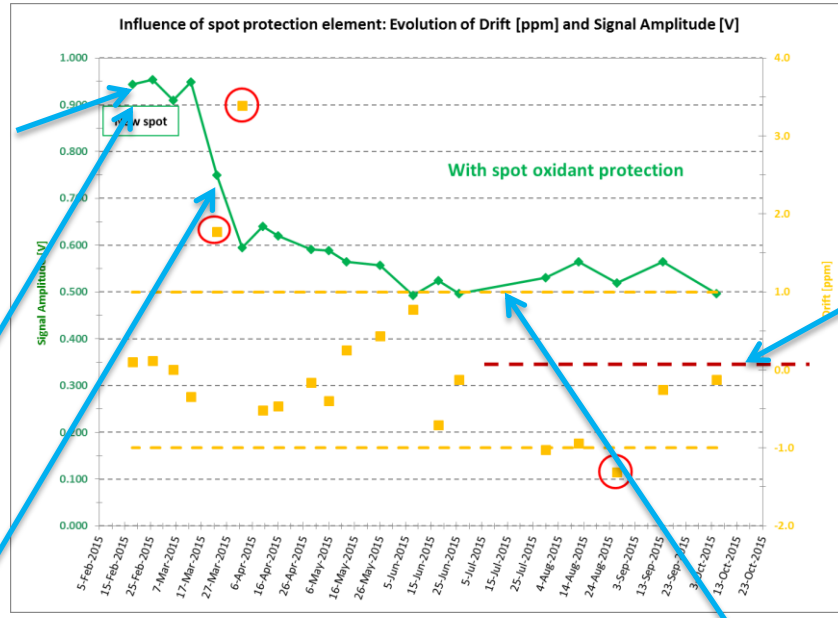

Figure 6: Key spot lifecycle phases with SW 3.08 dry relay function
When the last status of spot is reached, spot has been drastically attacked. In case of high level spot, signal amplitude in air—initially between 0.8 and 0.9V—can be decreased down to less than 0.200V. In such conditions, calibration frequency is about once a week, and the lifetime of the spot can be less than two months (see the red curve in Figure 6).
- Stabilization of the behavior. With such a configuration, no calibration is required during the first phase, only during the transition phase and then time to time at the second plateau (see the green curve in Figure 6).